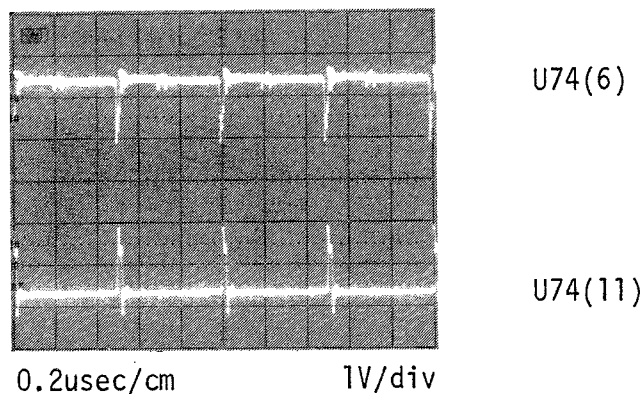

Figure A50-2
- (f) Set A50S1 to the test position (T). Press keys TR and 50. Monitor U74 pin 6 and keep the ↑ key pressed continuously. The 2MHz output should now change in frequency as the divide by N code to the divide by N circuit changes. (The VCO is held at a constant frequency by A50S1 being in the test position).
- (a) Flip Flops U74a and U74b should have a 2MHz input signal as shown in Figure A50-2.